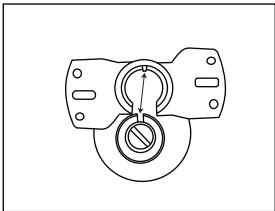

Figure 1
- 1. Insert the downrod ball head into the groove of the mounting bracket.(Figure 1)
- Your new ceiling fan will require a grounded electrical supply line of AC110~130V/60Hz15 Amp Circuit. Electrical code requires use of a fan-rated outlet box to support the extra weight and motion associated with a ceiling fan. A fan-rated box will be labeled as such and typically supports up to a 70lbs ceiling fan. Fan-Rated Outlet Boxes vary in rating and design. Ensure the ratings of your ceiling fan outlet box meet the requirements for the ceiling fan being installed. Figure 1, Figure 2 and Figure 3 depicts different structural configurations that may be used for mounting the outlet box.
- Low-profile use (Figure 1):